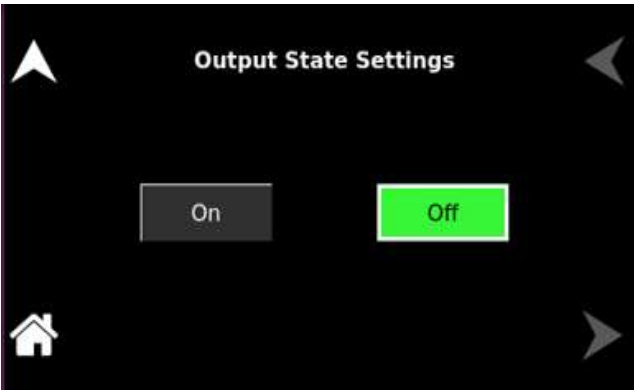

Figure 8-46. Output State Settings
**Output State**    User can program the output to ON or OFF state. Refer to Figure 8-46.